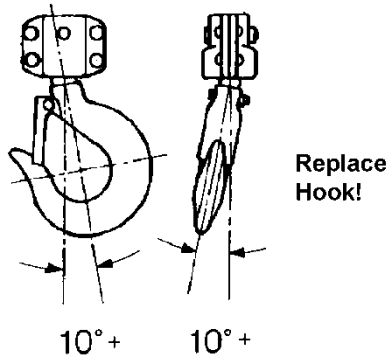

Figure 3
- The vertical angle at the neck of the hook reaches  $10^\circ$  (see Figure 3).